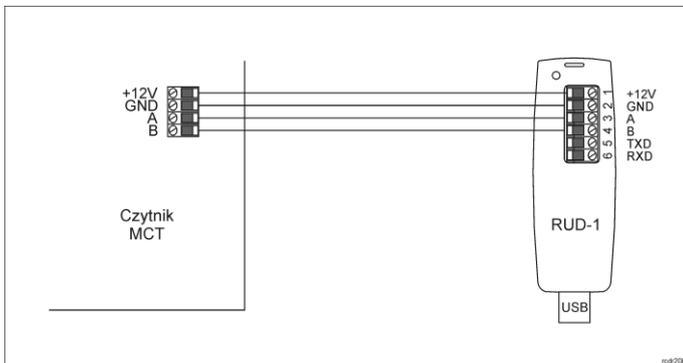

Fig. 1 Connection of the terminal to RUD-1 interface for configuration
2. Connect the device to RUD-1 interface according to fig. 1 and connect RUD-1 to computer's USB port. The terminal will display CONFIG MODE text and orange LED SYSTEM will pulsate.